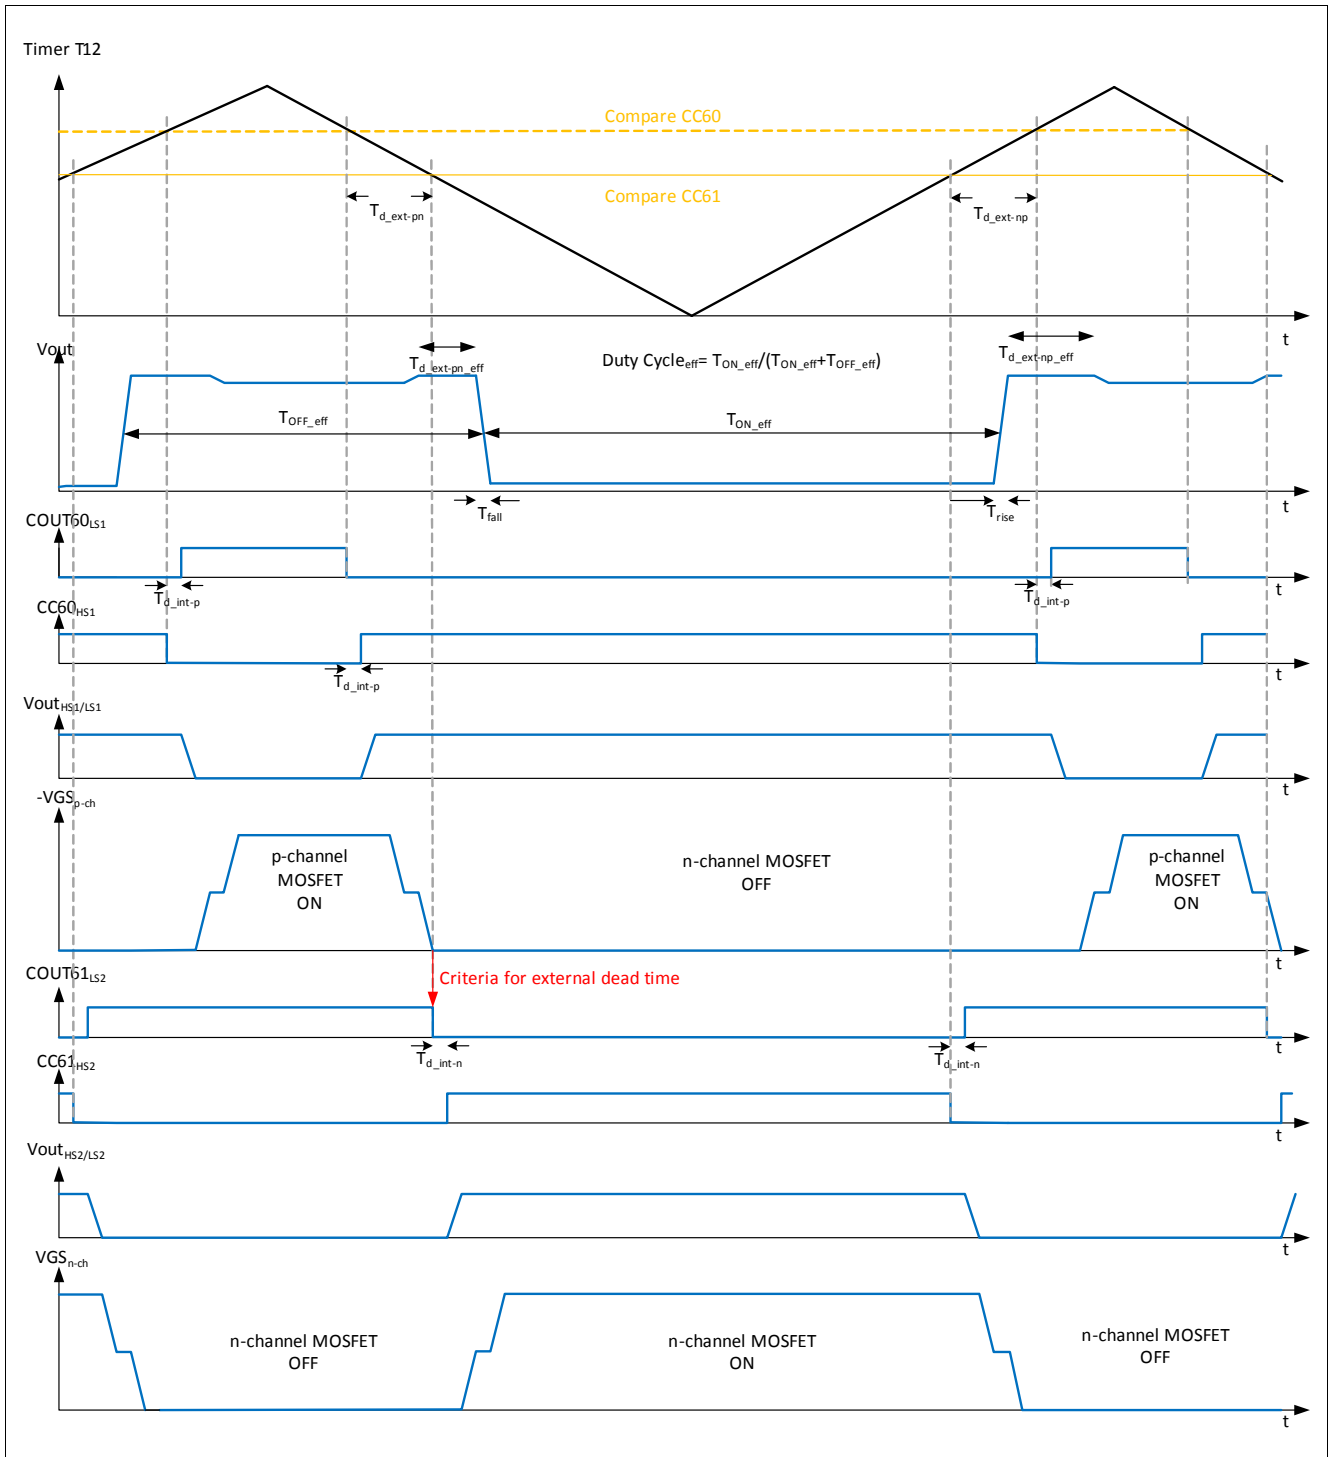

Figure 33 Detailed scheme duty cycle, internal and external dead time generation
**Figure 33** shows a scheme which describes in principle the use of the CCU6 module for duty cycle, internal and external dead time generation. Remark that there will be a difference between the external dead times which has to be adjusted by respective setting of the capture values for channel 0 and 1 and the effective dead time, which will be impacted by gate charge and discharge timing. It is recommended to adjust the external dead time in such a way, that in any cases the gate of either the n- or the p-channel MOSFET is completely discharged before further activation. In reality the charge and discharge timing won't be symmetrically. So the longest time should be chosen as reference.